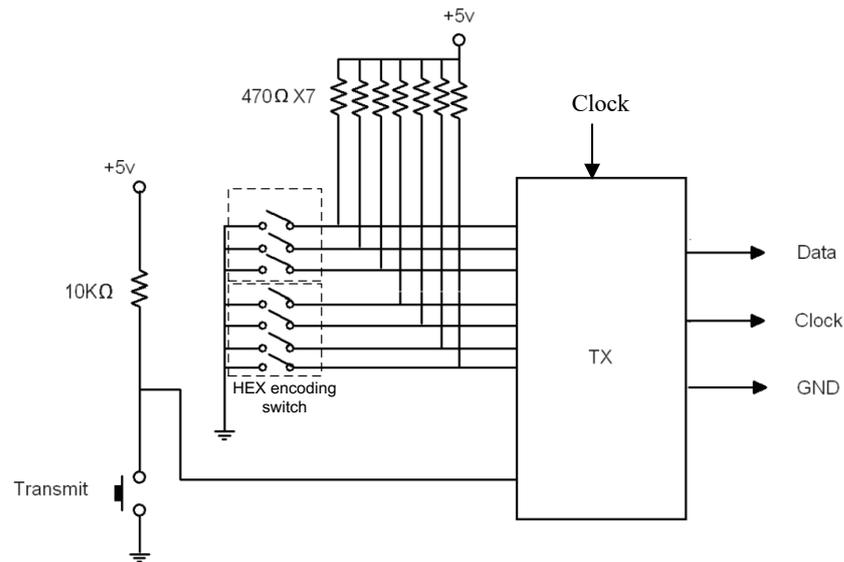

Fig. 1. The transmitter part of a data communications system.
1. This project is to build a data communications system. The system has a transmitter part (TX) and a receiver part (RX). The data are serially sent from TX to RX. To simplify the problem, the clock is also sent to RX. Therefore, data, clock, and ground lines are required for data transmission.
2. The first part of the project is to build TX. A block diagram for this part is shown in Fig. 1. To transmit data, the user needs to set the HEX encoding switches to represent 7 bits of the data. After that, the user pushes the “transmit” button for the **7-bit data** to be sent.